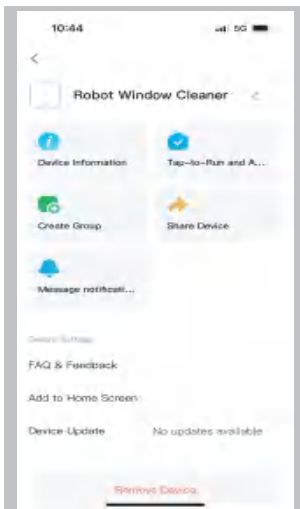

Fig.7
7). Click the icon “✎” to check more about the robot as Fig.7.